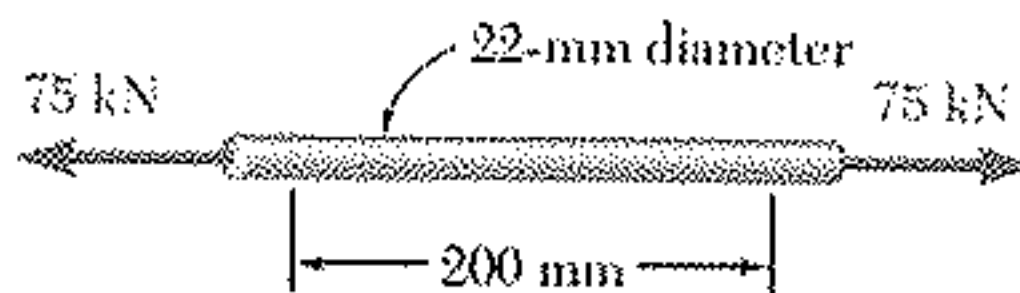

Figure 1
- In a standard tensile test, a steel rod of 22-mm diameter is subjected to a tension force of 75 kN shown in figure 1. Knowing that $\mu = 0.3$ and $E = 200 \text{ GPa}$, determine